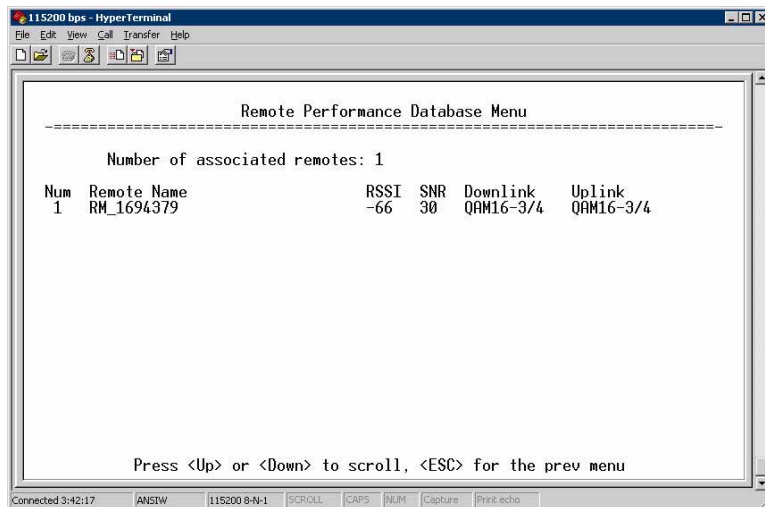

Figure 3-82. Remote Performance Database Menu
- ⌘ **Remote Performance Database (AP Only)** □ Displays a submenu where associated Remote performance data is listed in table form. Remotes are presented according to their number, MAC address, RSSI, SNR, modulation type, uplink modulation, and FEC total. (See Figure 3-82 on Page 110.)